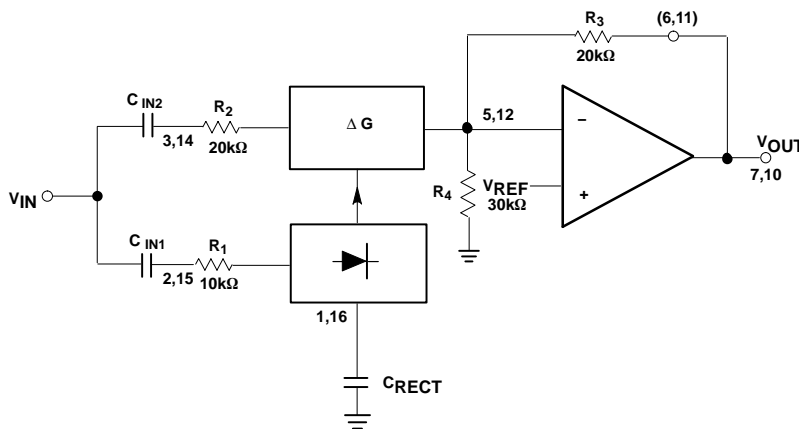

Figure 9. Basic Expander (NE570/SA571 pinout)
1. DC bias the output halfway between the supply and ground to get maximum headroom. The circuit in Figure 9 is designed around a system supply of 6.0 V so the output DC level should be 3.0 V.